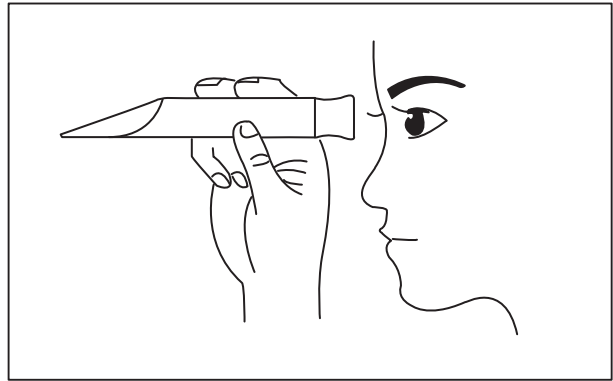

Fig. 6-7 Measuring Procedure 4
4. Read the scale through the eye piece. Turn the eye piece until the scale is clearly visible. (Figure 6-7)